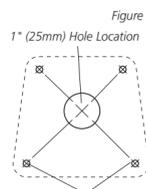

Figure 21
- If the cables must pass through a hole underneath the mounting surface, mark and drill a 1" (25mm) hole centered between the four mounting holes (Figure 21).